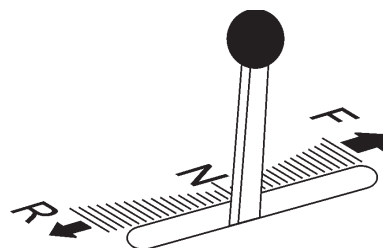

Figure 49. Speed Lever (Neutral Position)
1. Disengage the drive by placing the **forward/reverse speed lever** (Figure 49) in the **NEUTRAL** position.